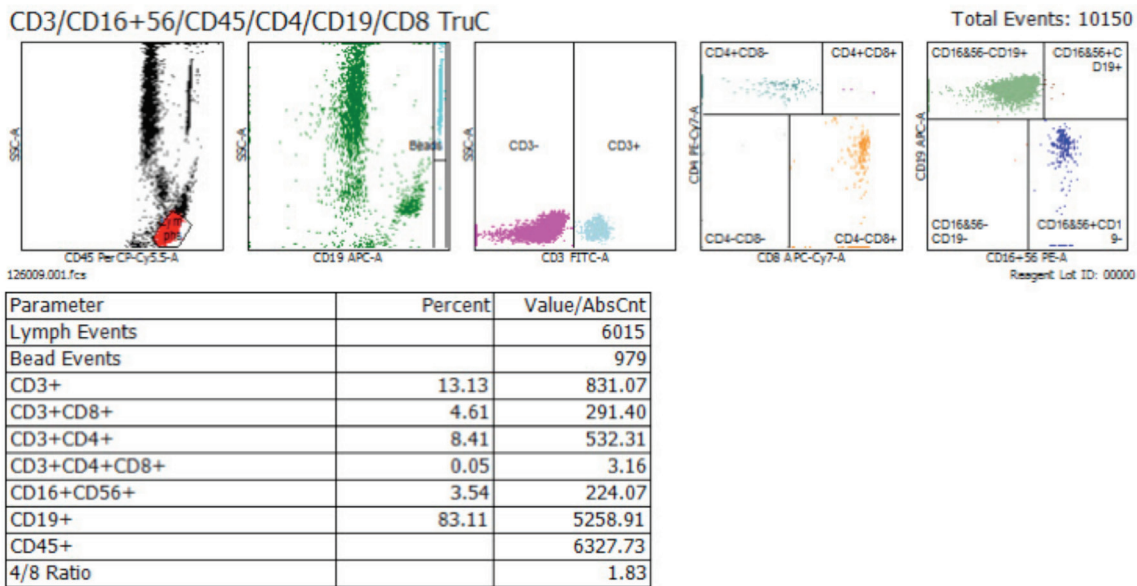

Figure 22: Data from a suspected CLL sample
- Occasionally, samples will be received that are not of an immunosuppressed nature. Chronic lymphocytic leukemia (CLL) is one example. A high WBC, few monocytes or neutrophils displayed, a low bead count with a possible error message of less than 500 beads collected (error message not shown) may be a tip-off for this sample. Notice that 83% of the lymphocytes collected are CD3⁻. Although absolute counts are displayed, the results are suspect due to the few beads collected. The package inserts for both the 4- and 6-color BD Multitest reagents list the upper linearity for a WBC in submitted samples. See Figure 22.